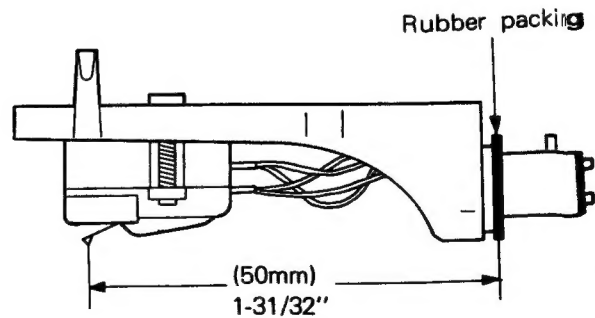

Figure 3-4
2. Provide a distance of 50mm between the stylus end and the rubber packing on the head-shell. (Refer to Figure 3-4)